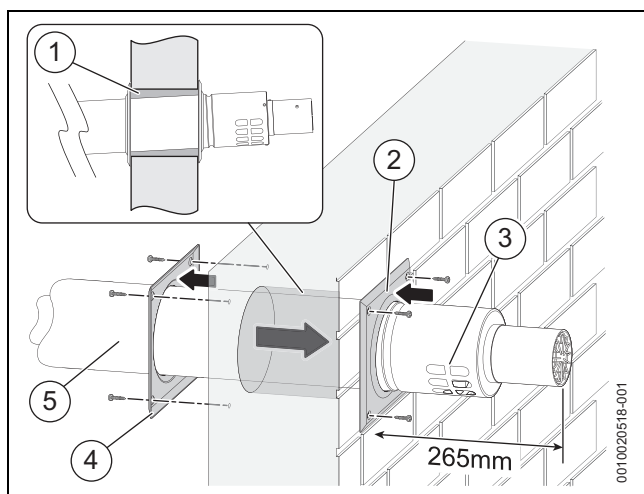

Fig. 28 Horizontal flue through the wall
- ▶ Ensure that the terminal (item [3], figure 28) is orientated correctly before securing flue in place. The air intake vents of the terminal (item [3], figure 28) facing downwards.
Refer to figure 28